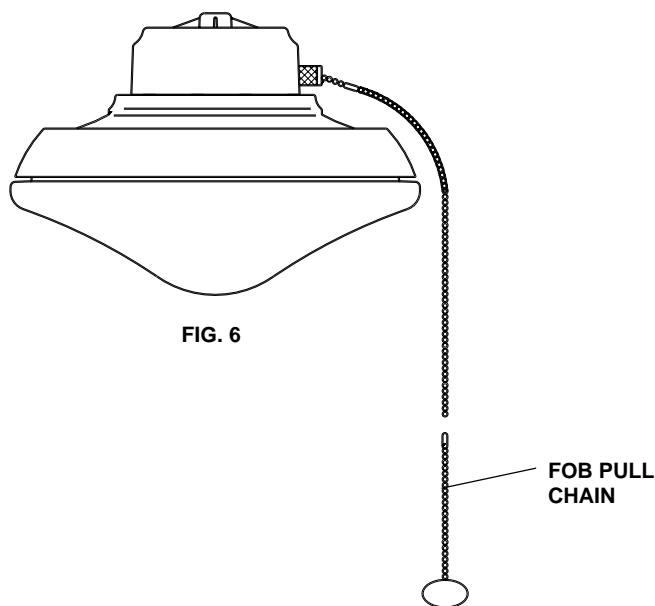

FIG. 6
10. For 3 speed fan series. Connect the fob pull chain. Repeat for both switches. See FIG. 6